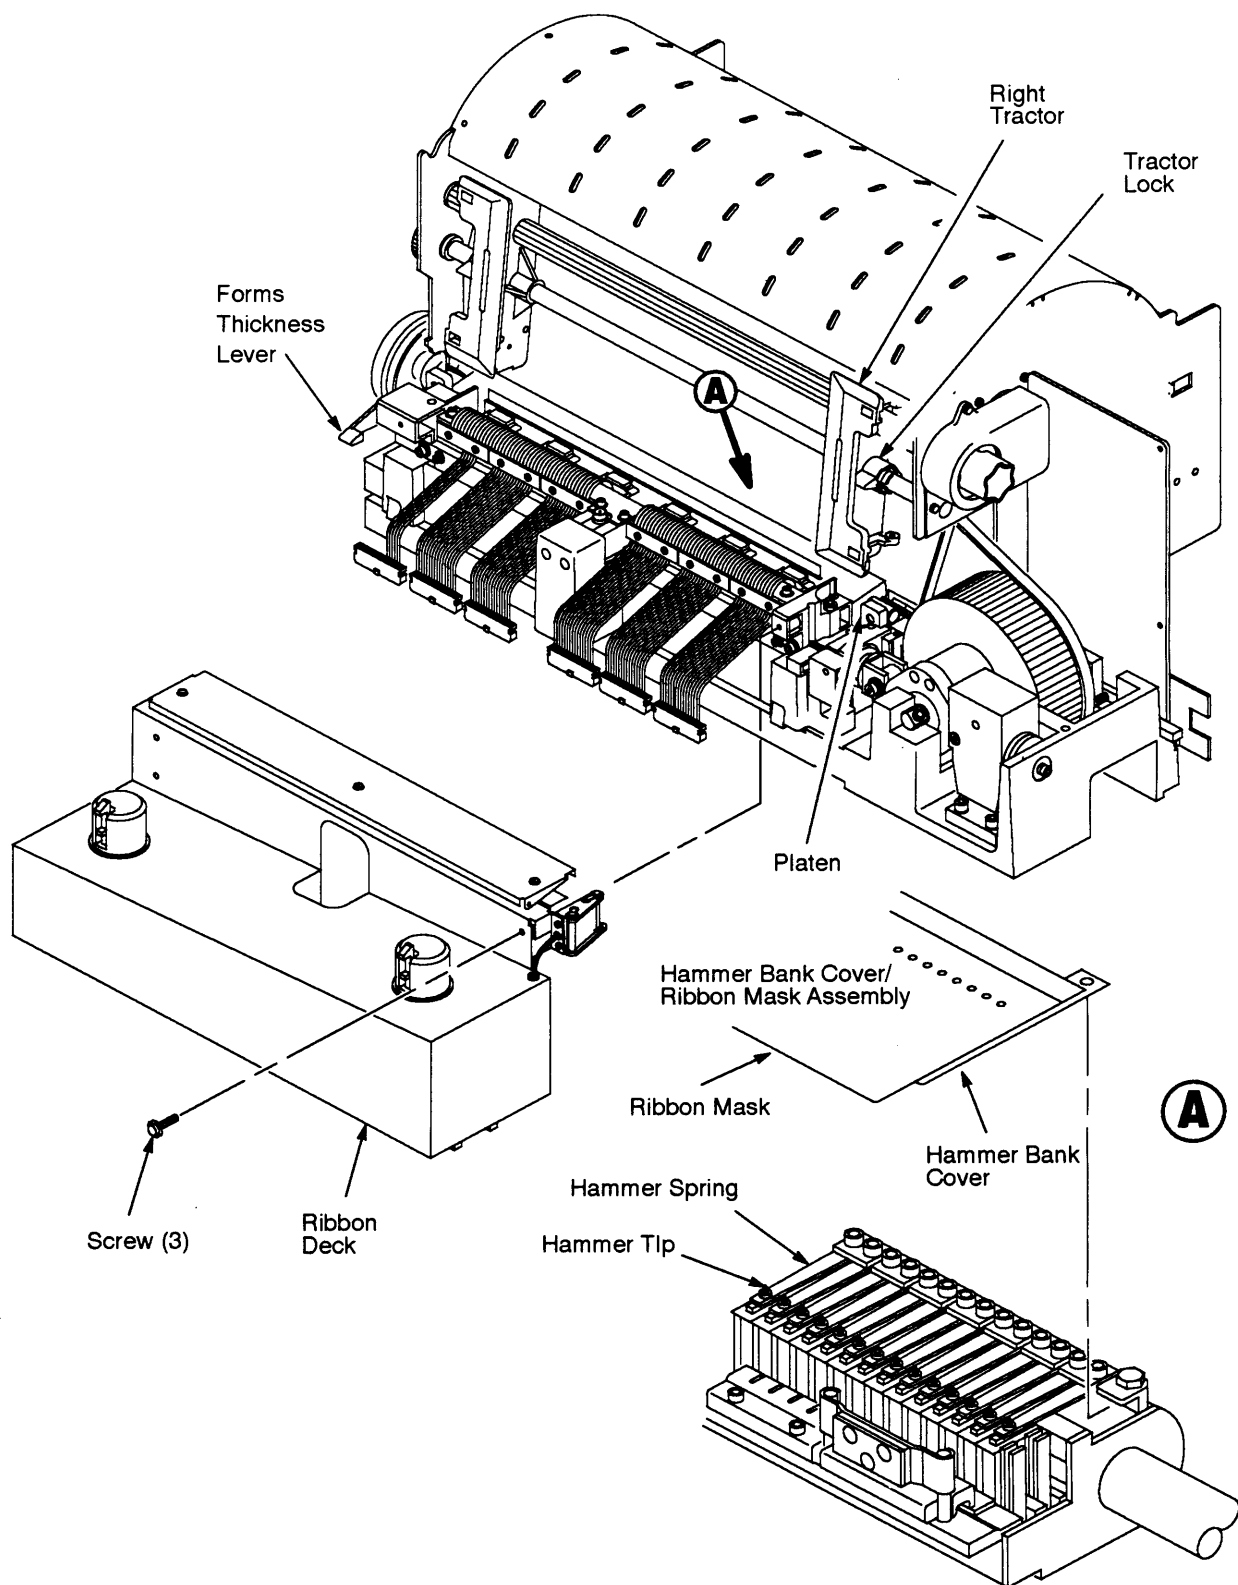

Figure 4-2. Cleaning Hammer Bank Assembly
13. Unlock the right tractor and slide it all the way to the right. (See Figure 4-2.)